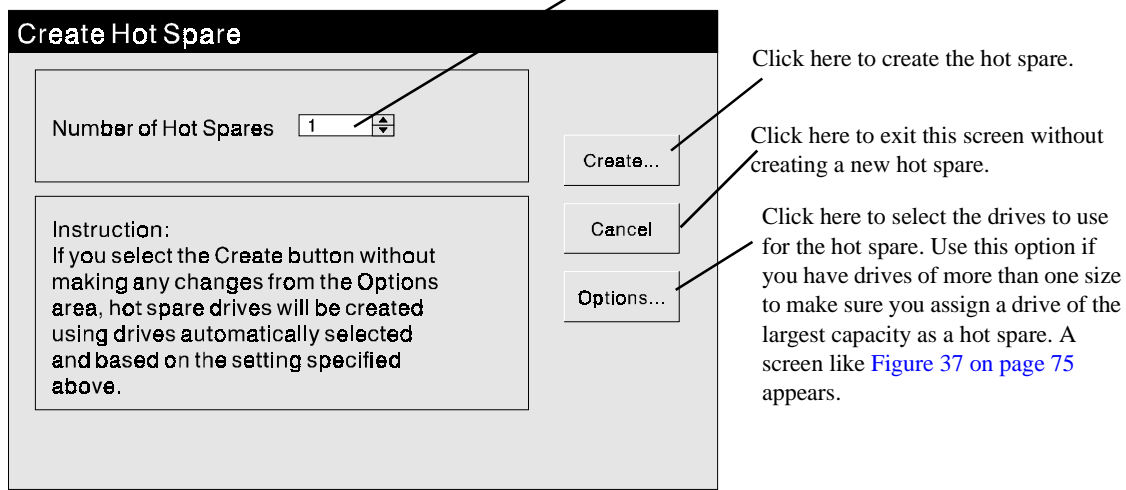

Figure 36. Create Hot Spare Screen 33374
4. Click on the Hot Spare button or select Options → Create Hot Spare from the drop-down menus. A screen like Figure 36 is displayed.